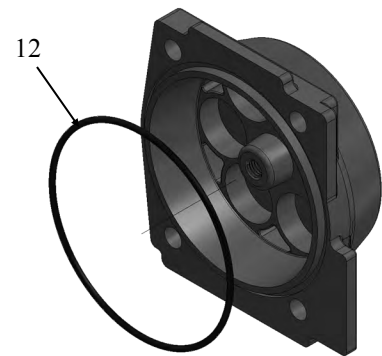

Fig. 8.3
- b. End Cap O-Rings: will have the largest O-Ring diameter (2 pieces), (#12 fig. 8.3)